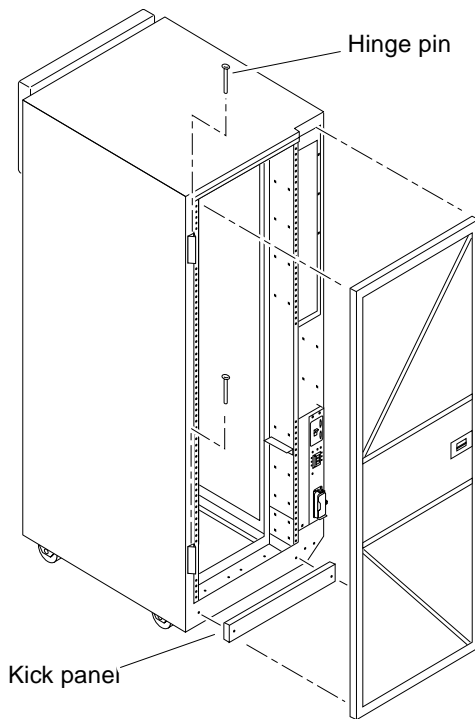

FIGURE 11-5 Rear Screen and Kick Panel
- a. Open the door or pull out the hinge pins (FIGURE 11-5) and lift the door off.